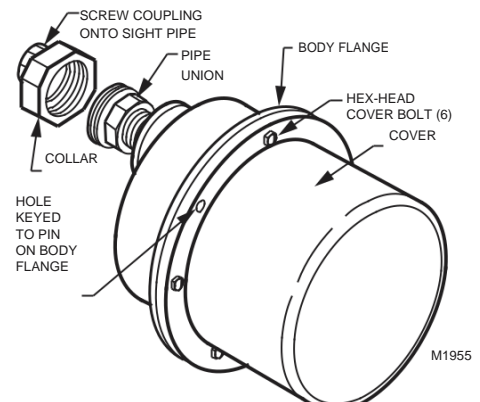

Fig. 9. Mounting C7024F Detector.
- To mount a C7024F with explosion-proof housing (see Fig. 9):
C7024F (see Fig. 9): Unscrew the collar from the pipe union and remove the detector.